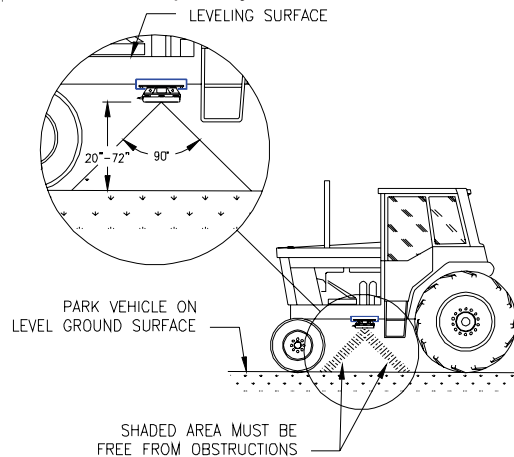

FIGURE 1
- a) The line of sight from the lens to the ground must not be obstructed by structures or tires. Crop foliage must not come closer than 20 inches to the bottom of the radar. See Figures 1 and 2.